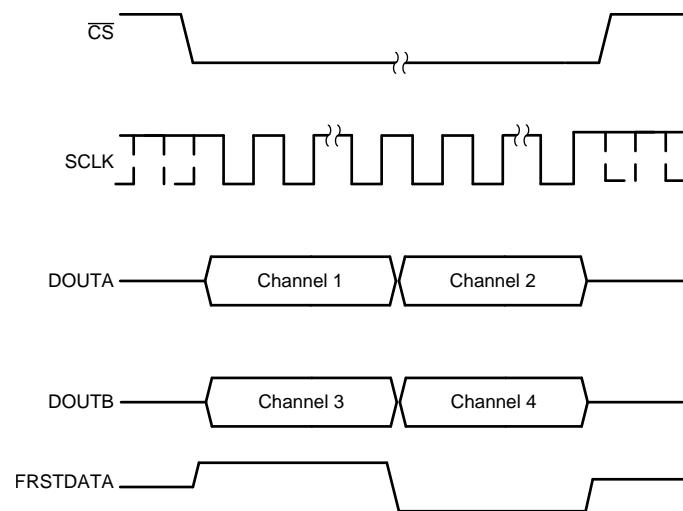

Figure 70. Data Read Back in the Serial Interface Using Both DOUTA and DOUTB Timing Diagram
- In order to minimize the time for the data read operation in serial mode, both DOUTA and DOUTB can be used to read data out of the device. In this case, the conversion results from the first set of channels (channels 1-2 for the ADS8584S) appear on DOUTA and the conversion results from the second set of channels (channels 3-4 for the ADS8584S) appear first on DOUTB. To read the data for all channels, provide a total of $16 \times 2 = 32$ SCLK cycles for the ADS8584S. This entire data frame can be created within a single $\overline{\text{CS}}$ pulse or each group of 16 SCLK cycles can be individually framed by the $\overline{\text{CS}}$ signal. Figure 70 shows an example timing diagram.